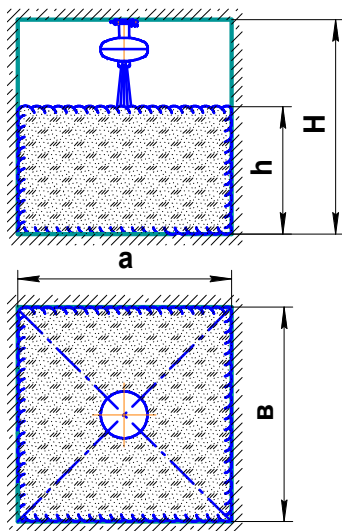

Figure 3
6.8 The configuration of powder spraying and the area image, where smothering is achieved, are given in Figure 3 and in Table 2. For the MPP mounted in the room at a height of 2.5 to 4m the parameters of spraying are given in Table 3.